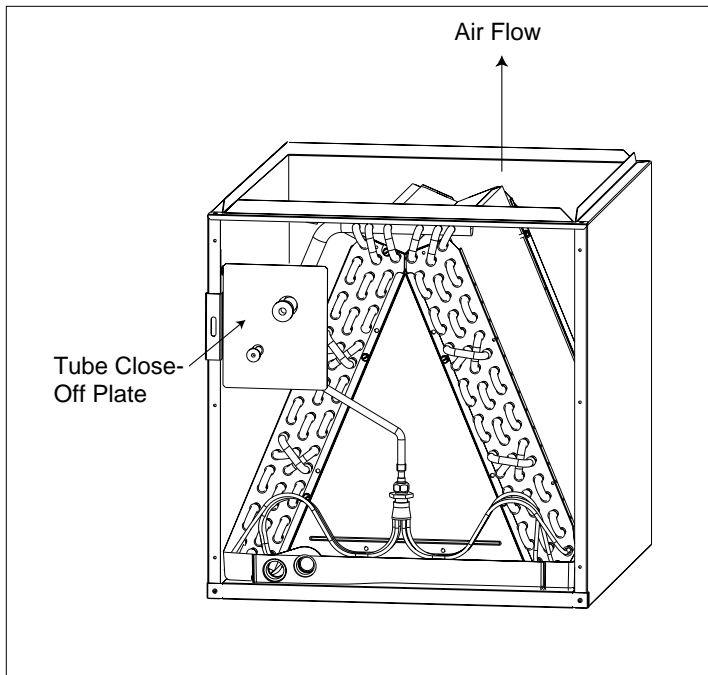

Figure 2.
- 5) Place the tube close-off plate over the suction and liquid headers and screw onto the front cabinet rail. (See Figure 2.)